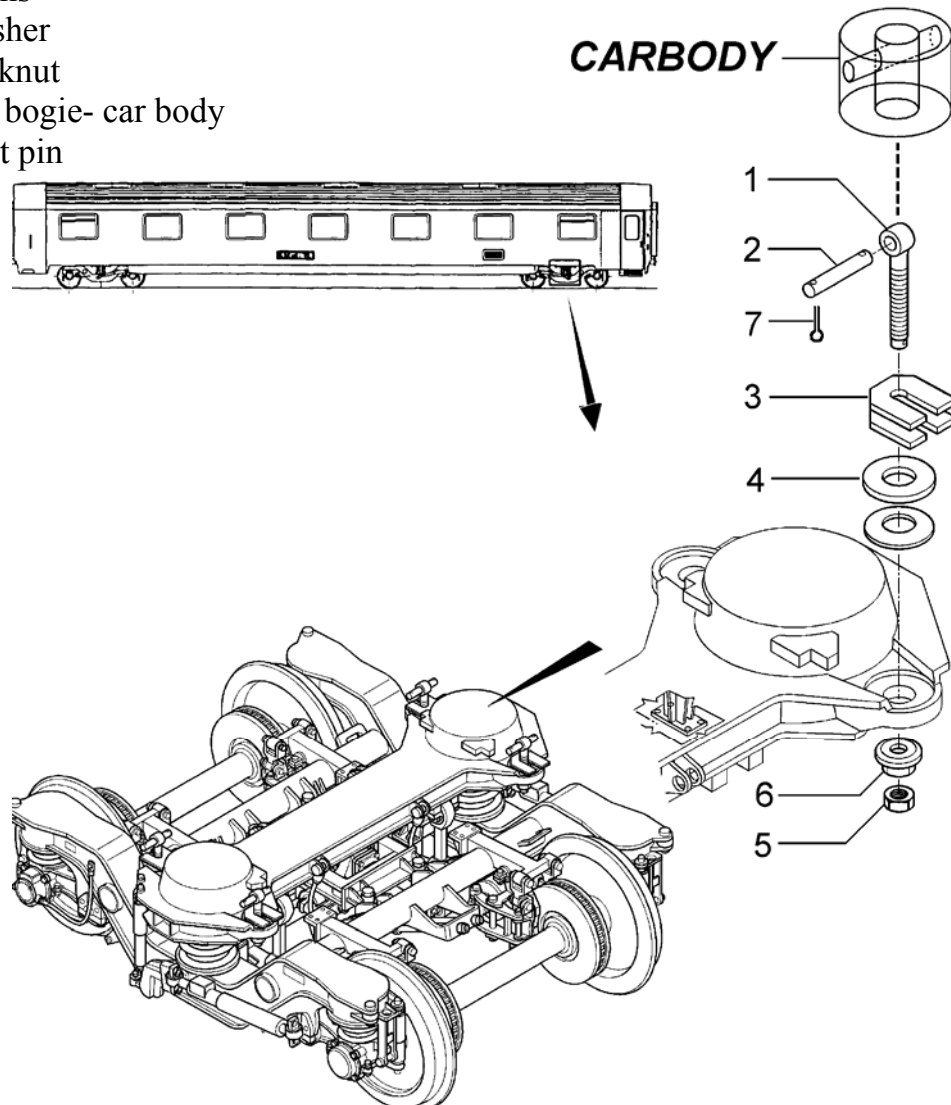

FIG. 4-17 DISCONNECTION OF THE BOLSTER BEAM
Unscrew the locknut (5 - FIG. 4-17) and the nut linking body and bogie (6). The bogie is disconnected from the car body. When the coach body is lifted, check that washers (4) and shims (3) remain on the bolster beam. Items (1), (2) and (3) remain attached to the coach body: in order to remove them, extract the split pins (7), remove the pin (2) and finally the threaded pin (1).